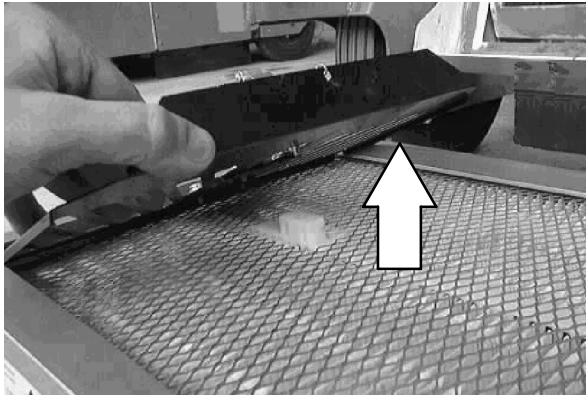

FIG. 4
4. Cut any cables ties securing the VCS™ system filter shaker to the filter and lift the VCS system filter shaker off the filter. Refer to Fig. 4.